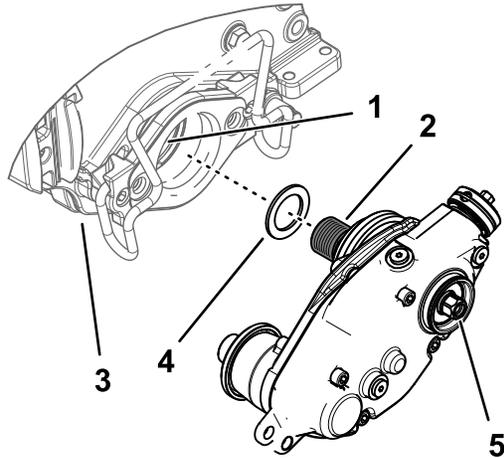

Figure 13
- For a groomer drive box installed at the left side of the cutting unit, assemble the shim washer over the threads of the black reel adapter (Figure 13).